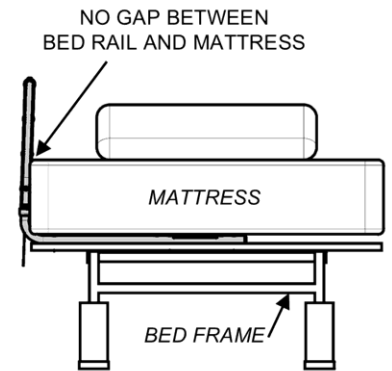

FIGURE 7B
- There must be **NO** gap between Bed Rail **E** and Mattress, as shown in *FIGURE 7B*.